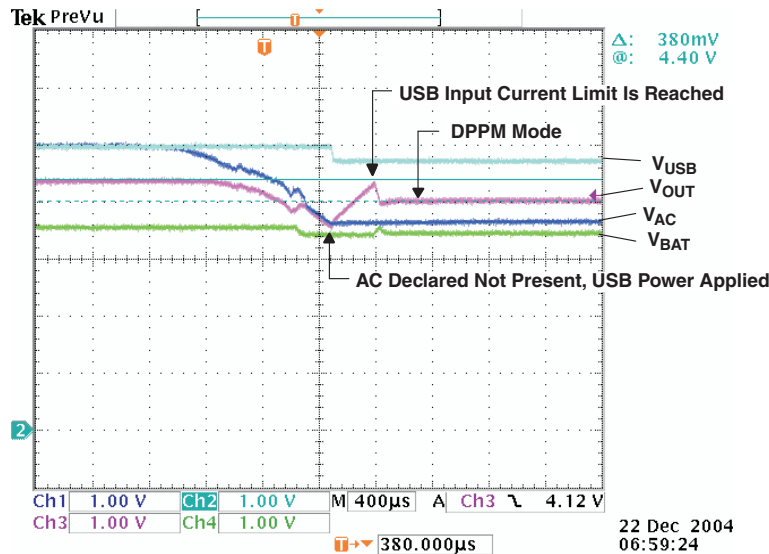

Figure 7. Remove AC – Power Transfer to USB
Figure 7 illustrates when AC is removed, power transfers to USB [PSEL = H (AC primary source), channel 1 (CH1)  $V_{AC} = 5.4\text{ V}$ , channel 2 (CH2)  $V_{(USB)} = 5\text{ V}$ , channel 3 (CH3)  $V_{OUT}$ , output current  $I_{OUT} = 0.25\text{ A}$ , channel 4 (CH4)  $V_{BAT} = 3.5\text{ V}$ , and  $I_{(PGM-CHG)} = 1\text{ A}$ ]. The power transfer from AC to USB only takes place after the primary source (AC) is considered bad (too low,  $V_{AC} \leq V_{BAT} + 125\text{ mV}$ ) indicated by the ACPG FET turning off (open drain not shown). Thus, the output drops down to the battery voltage before the USB source is connected (sixth division). The output starts to recover when the USB FET starts to limit the input current (seventh division) and the output drops to the  $V_{(DPPM-REG)}$  threshold.